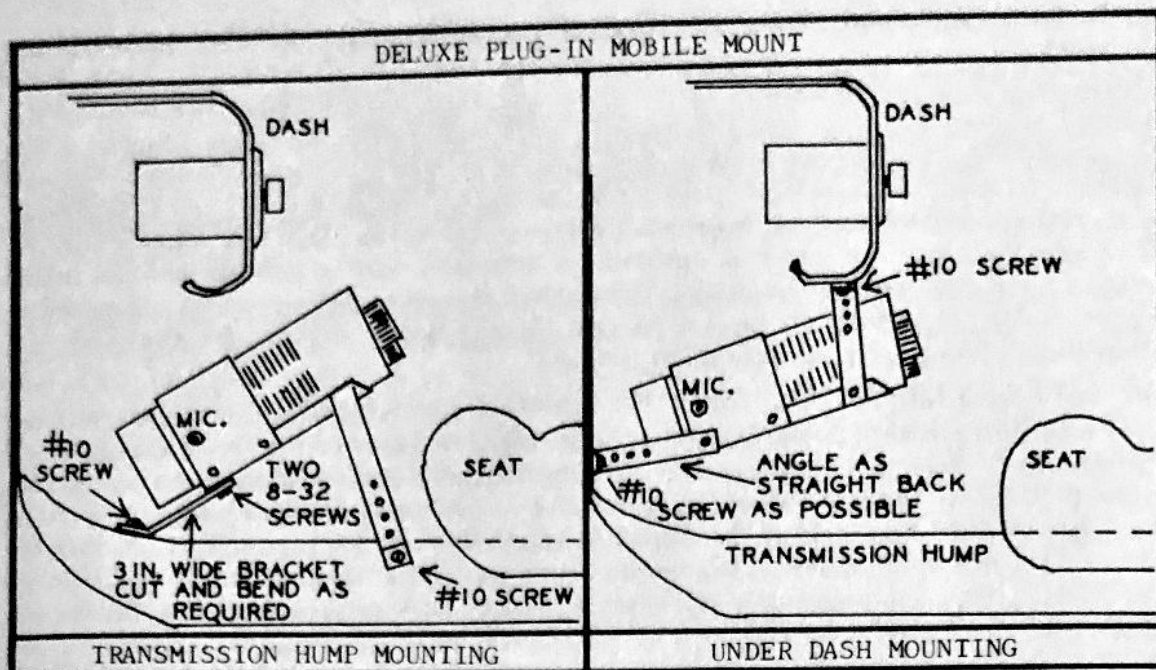

Figure 2-3. Deluxe Plug-in Mobile Mounting Kit Installation
**2-23. DELUXE PLUG-IN MOBILE MOUNTING KIT.** This kit includes: (a) 6½ foot D.C. power cable; (b) 25 Amp. Circuit Breaker; (c) Black anodized aluminum plug-in housing; (d) Two 9-inch and two 12-inch cadmium plated steel mounting bars; (e) 3 inch wide rear bracket; (f) Package of screws and terminal lugs. Refer to Figure 2-3 for typical transmission hump and under dash mounting arrangements.